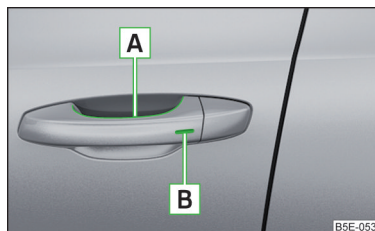

Fig. 36
Sensors in the handle of the front door » Fig. 36
- › Grasp the door handle of the front door or cover sensor **A** » Fig. 36 with the palm of your hand.» **!**
- › Touch the sensor **B** » Fig. 36 with your fingers.